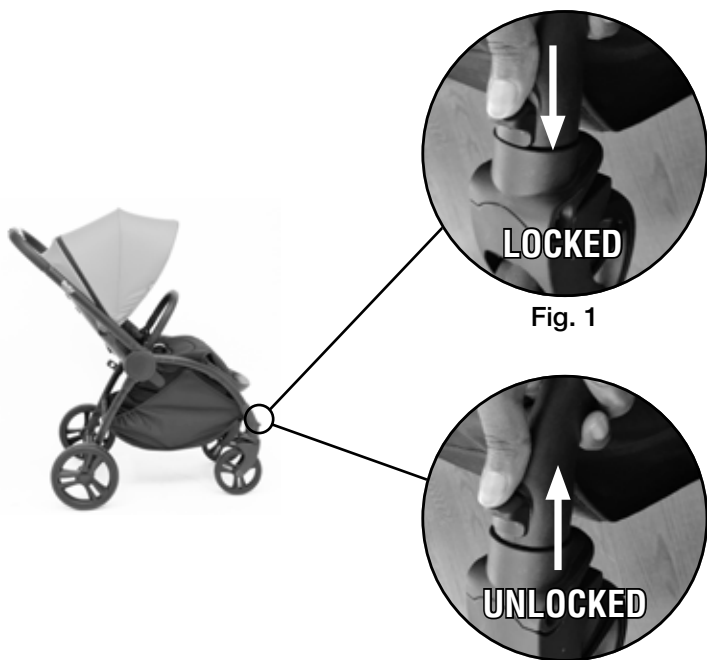

Fig. 1
- **To engage the lock**, Align the wheels forward and push the switch located at the rear of the front wheel down towards the wheel (Fig. 1)